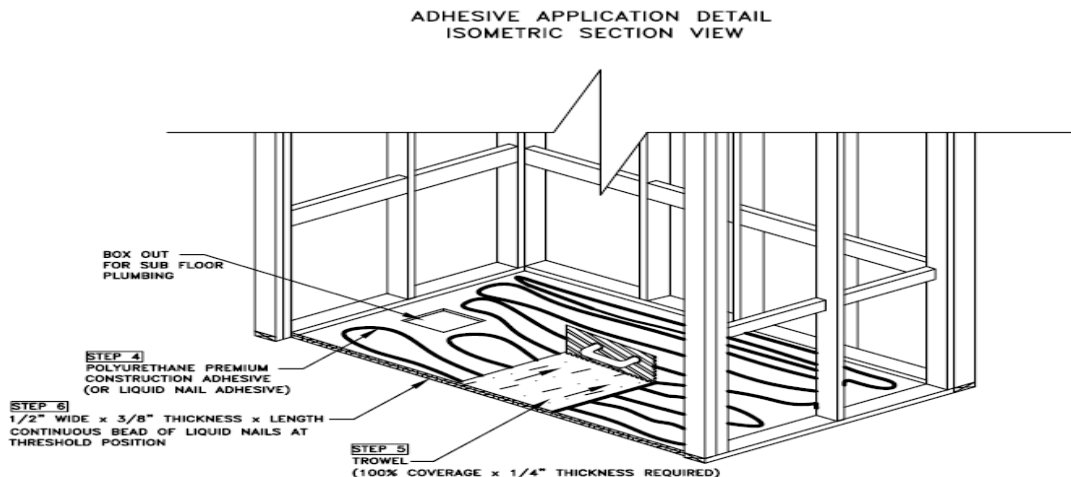

Figure 1
- 5) Using a 1/4" trowel, wipe "across" the lines created in step 4. **100% coverage/contact of adhesive to Easy Base is required.**(See Figure 1)